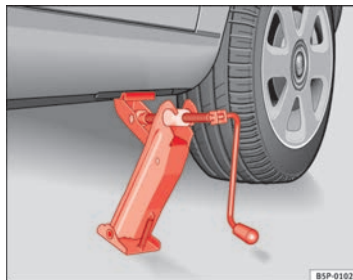

Fig. 182 Fitting the jack
- Align the jack so that the arm of the jack fits around the rib under the door sill and the movable base plate of the jack is flat on the ground ⇒ Fig. 182.